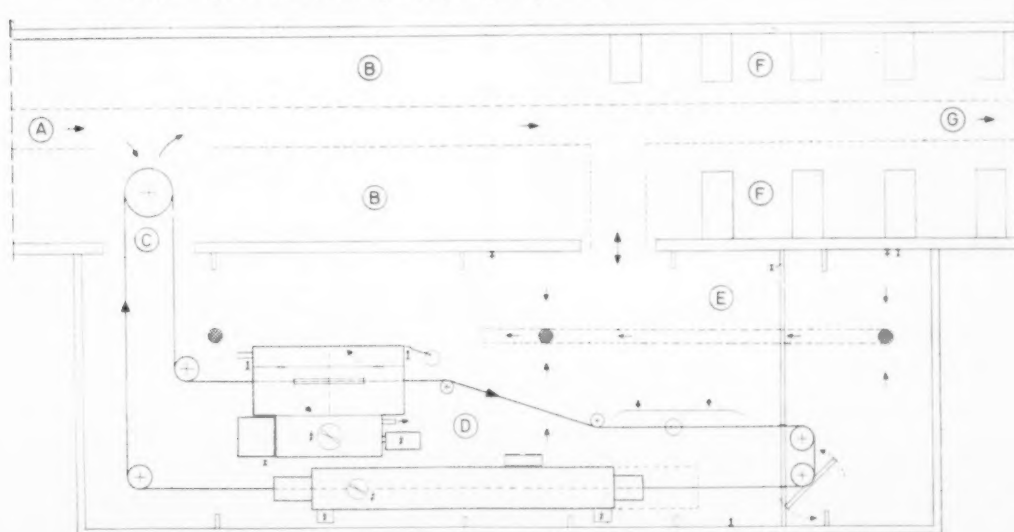
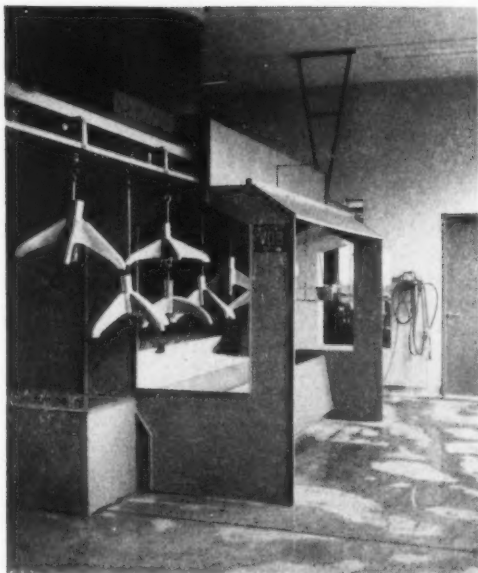

Fig. 2.—(right) Conveyor track in a mechanized paint shop with chain guards on guide sprockets (foreground).
Fig. 7.—Paint shop with reinforced concrete ceiling and brick walls; on the left, conveyor openings for work-pieces.
**Kind and shape of building.** An annexe or a new building, as a rule, mainly for architectural reasons, will require to be adapted to the existing factory buildings. Basically, the choice is between the following building forms : a) work-shops with top lights, Figs. 3, 5 and 11 : b) shop spaces, with horizontal, continuous ceilings or with a roof of the kind usual in multi-storey brick or concrete buildings, Figs. 2, 6 and 7. Both kinds of construction have advantages and disadvantages. The type of manufacture (type of work to be processed), together with other particular features, is the determining factor. The layout will, where possible, be adapted to the installation layout and should provide scope for extensions. For installations with longer conveyor tracks and tall equipment units, Figs. 3 and 11, an elongated layout in a building of the open shop type is suitable. Arrangement of the installation on a floor area without partition walls Fig. 5, is in most cases preferable to subdivision into sections or cubicles, Figs. 7 and 9. Special fire risks may dictate the opposite.
**Form and nature of equipment.** The need for eliminating manual transport and handling requires production-line, continuous flow installations. The following pictures show arrangements for mechanized throughput of work-pieces, which are not closely linked to the actual building. Fig. 5 shows a metal-washing tunnel with overflow tanks. Fig. 11 shows a flow-coating installation which, in spite of its great height, also has not been dropped below floor level; and Fig. 10 a paint-spraying point which raises the sprayer position and thus is also movable. By reason of this mobility, changes in the installation and expansion are facilitated and are possible without great expense. Exceptions (floor pits) are in some few cases unavoidable, but as a rule preference should be given to methods and structural forms which permit horizontal conveyor paths. Exceptions may be encountered in the case of large drying spaces, Figs. 2 and 6,